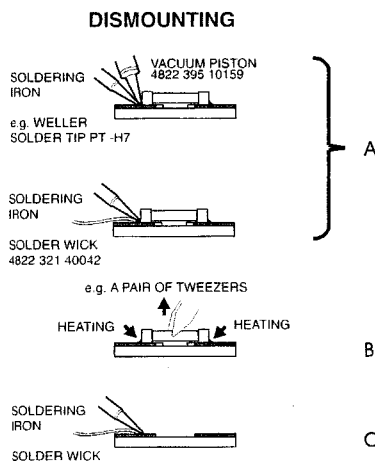

Fig. 10.1
- While holding the SMD with a pair of tweezers, take it off gently using the soldering iron's heat applied to each terminal (see Fig. 10.1 B).